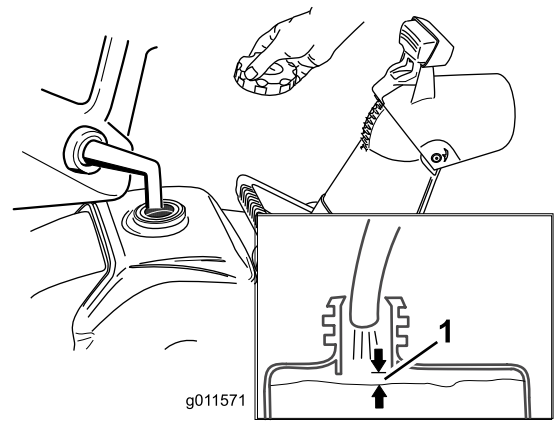

Figure 12
1. Ensure that the fuel tank is not overfilled (refer to Figure 12) and that the fuel cap is securely in place.